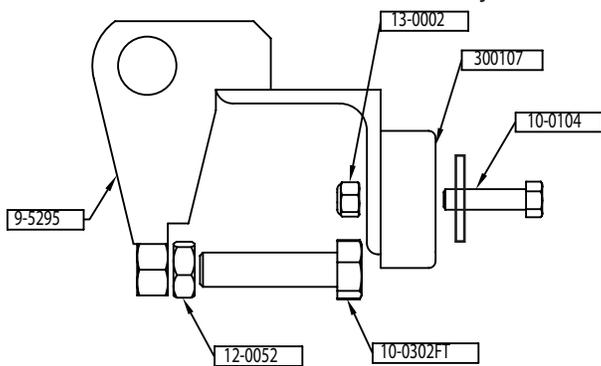

Figure 12
2. Insert the bolt (10-0104) through the Flat Washer (15-0002) and then into the hole in bumper (300107) **per Figure 12**.
6. Screw the 5/8" x 2-1/2" hex bolt onto the mounted nut on the Beam Boss Etruck bumper adapter as **per Figure 12** and making sure the head of the bolt is not flush against either nut. You may start with either side first.